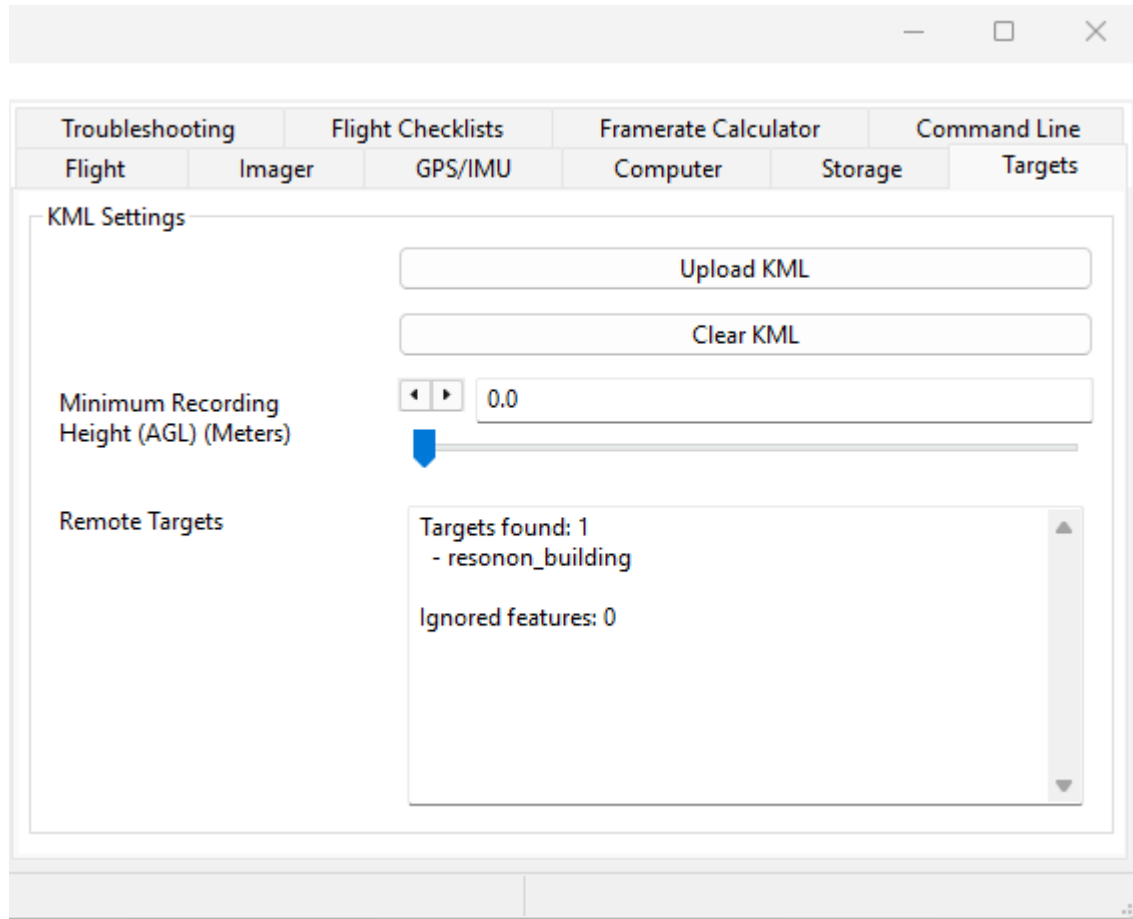

Fig. 3.20: The Targets Tab
The *Targets Tab* (Fig. 3.20) allows the operator to create, save, and upload target regions to the flight computer. These target regions define the areas over which the system will record data. When the aircraft enters a defined target area and is above the minimum height requirement, data recording is automatically started and ends when the aircraft leaves the target area. When data is recorded in a target region the name of the target region is reflected in the data folder name.
Note: In Fig. 3.20, the system's *Record Status* has changed from *Not Recording* to *resonon_building-3*, indicating the system is within the target KML file (*resonon_building.kml*) and is currently recording the third datacube from within that target area.
6. Upload the KML target file using to the flight computer using the **ResononGroundStation Upload KML** button shown in Fig. 3.20. A file dialog will be presented allowing you to select your saved KML file.
7. Examine the *Remote Targets* section of the *Targets Tab* (Fig. 3.20). Verify each target you defined is listed under *Targets found*. If a target is not shown, or if a target is listed under *Ignored features*, something is wrong with the uploaded target file. Fix it in **Google Earth** and try again. Features may be ignored if they were created as paths or points rather than polygons, for example.